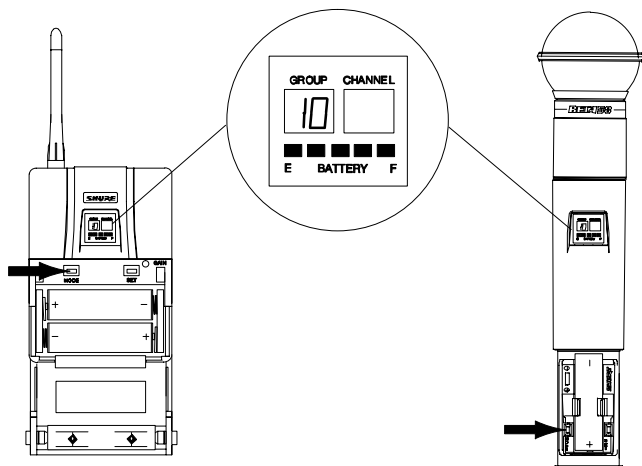

FIGURE 38
- Press and hold down the MODE button until only the Group number is displayed, as shown in Figure 38.